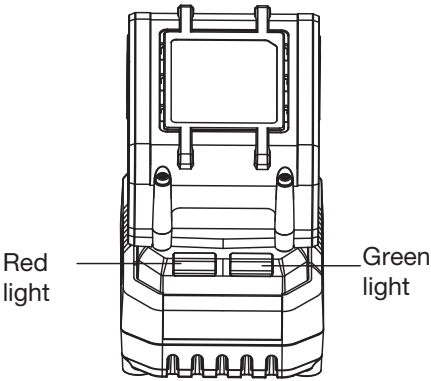

Figure 2
2. CHARGING THE BATTERY PACK (NOT SUPPLIED) (SEE FIG. 2)